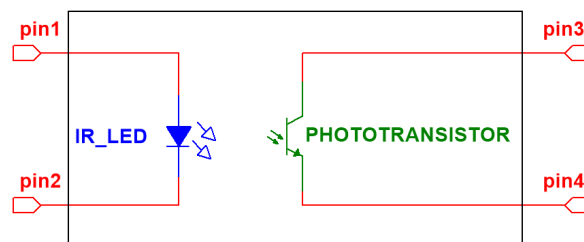

Figure 4.23: Photo of the Sharp GP1S58 Photo interrupter and the block diagram of the internal circuit.
- The sensor that detects the TV remote control signal – Vishay SOP34838 38 kHz IR Sensor (Figure 4.23)
Reflection sensors use the same circuit as photo interrupters shown in Figure 4.23, but their LED and phototransistor are aimed at precise angles so the light is reflected off a surface that is at a desired distance away. The **sensitivity** of a reflection sensor will change dramatically as the distance to the surface is changed, so care must be taken on the exact location that it is mounted. Furthermore, bouncing and vibrations must be minimized to avoid spurious readings that occur when the internal phototransistor's height above the surface changes. Figure 4.24 shows the NXT reflection sensor. This sensor is used to distinguish between surfaces that reflect light differently (e.g. a **black surface will absorb** most of the light and a **white surface will reflect** most of the light). IR light is used in most reflection sensors, but the NXT uses red light instead. The reduction in sensitivity (see Figure 4.17) that occurs when using a red LED instead of an IR LED was likely not as important to the designer of this sensor as knowing that the device is actually working. Since this sensor is sometimes used by children, not being able to visibly see IR light and know that it is working was likely deemed to be a customer service nightmare. There is also an NXT reflection color sensor that uses three different colored LEDs to estimate the RGB composition of the color of the surface instead of only the reflectivity %. Both types of NXT reflection sensors can also be used in ambient mode, where the LEDs are turned off and only the ambient lighting is used to trigger the phototransistors.